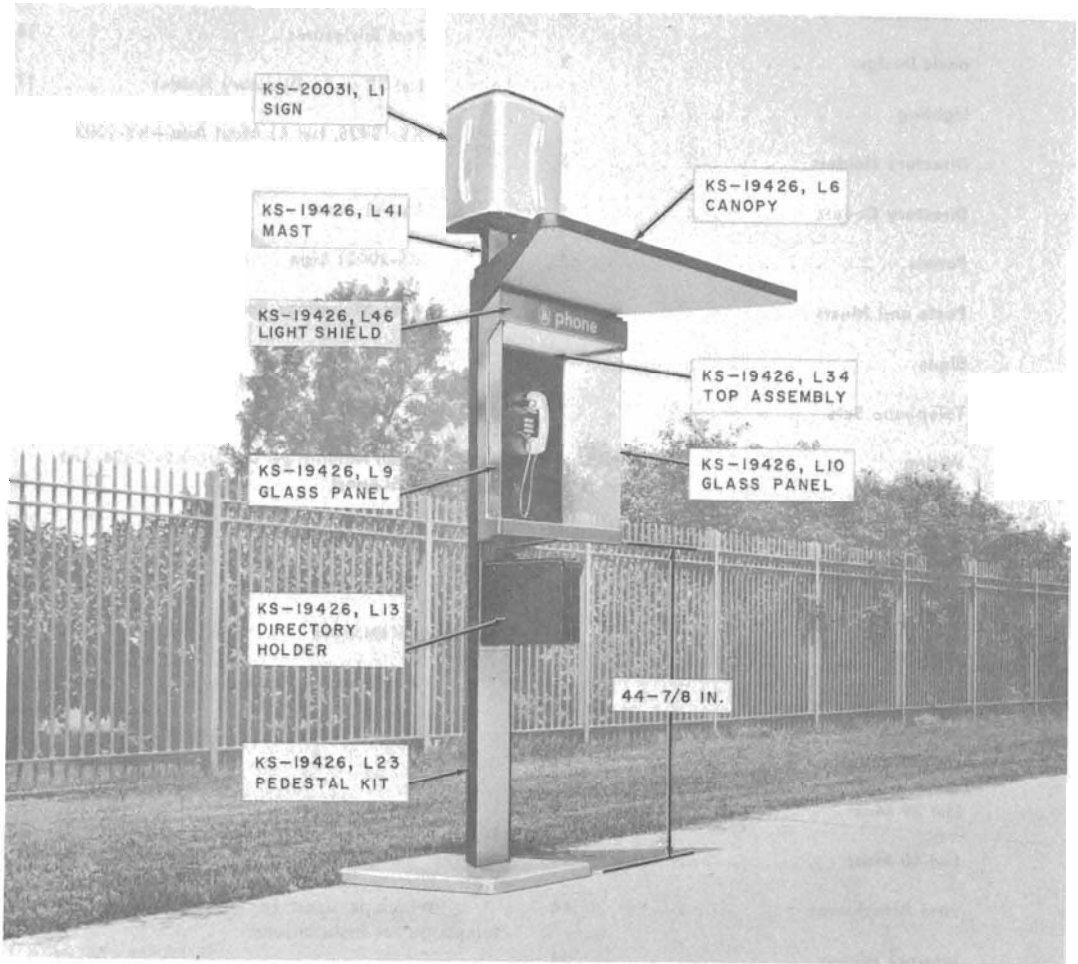
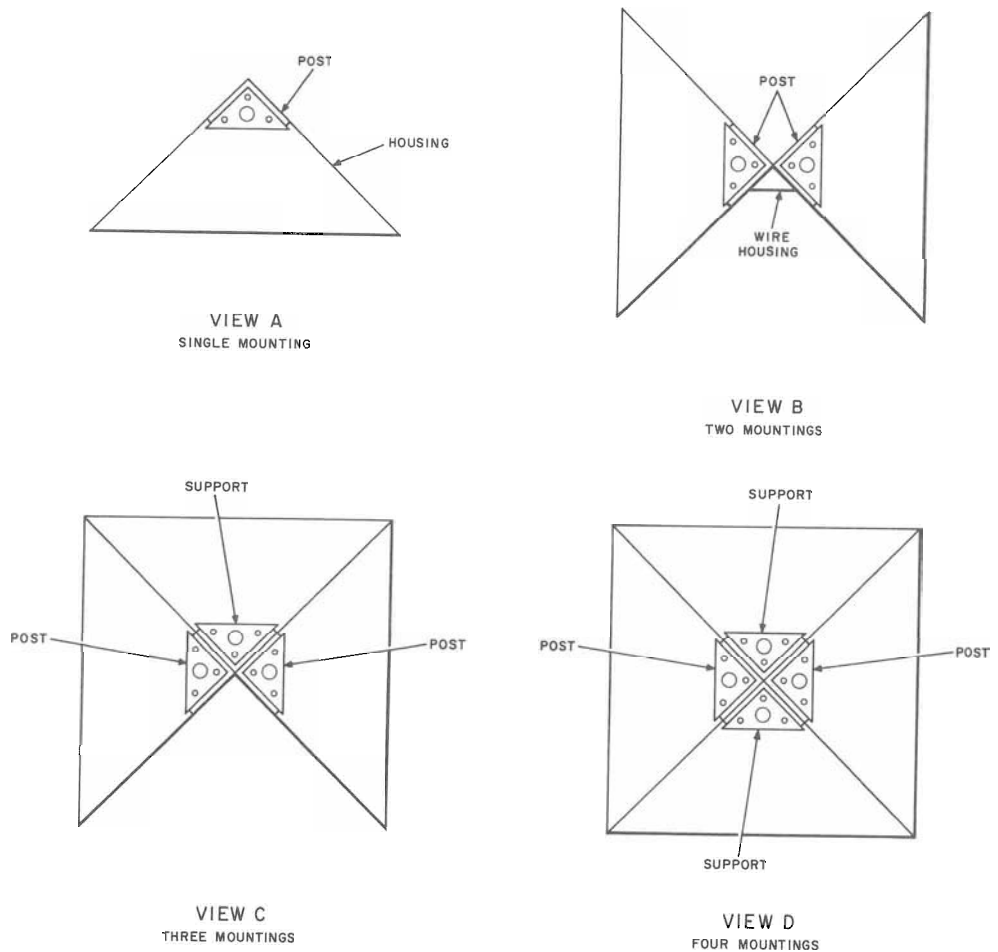

Fig. 1—KS-19426 Mounting for Walk-Up Outdoor Service with List 41 Mast and KS-20031 Illuminated Sign
Fig. 6—Various Arrangements for Post Mountings
2.02 The KS-19426 mounting consists of a 90-degree wedge-shaped housing for post- or wall-mounting of coin telephone sets (Fig. 1 through 5).
2.03 Post mountings (Fig. 1 through 3) may be installed singly or in multiple combinations as shown in Fig. 6.
2.05 A wedge-shaped KS-19426, List 6 canopy (Fig. 1) is available for installation above a single housing to protect the user from the weather. Canopies also may be used in multiple arrangements.
- (a) List 13 directory holder (Fig. 1) for outdoor use, walk-up installations.